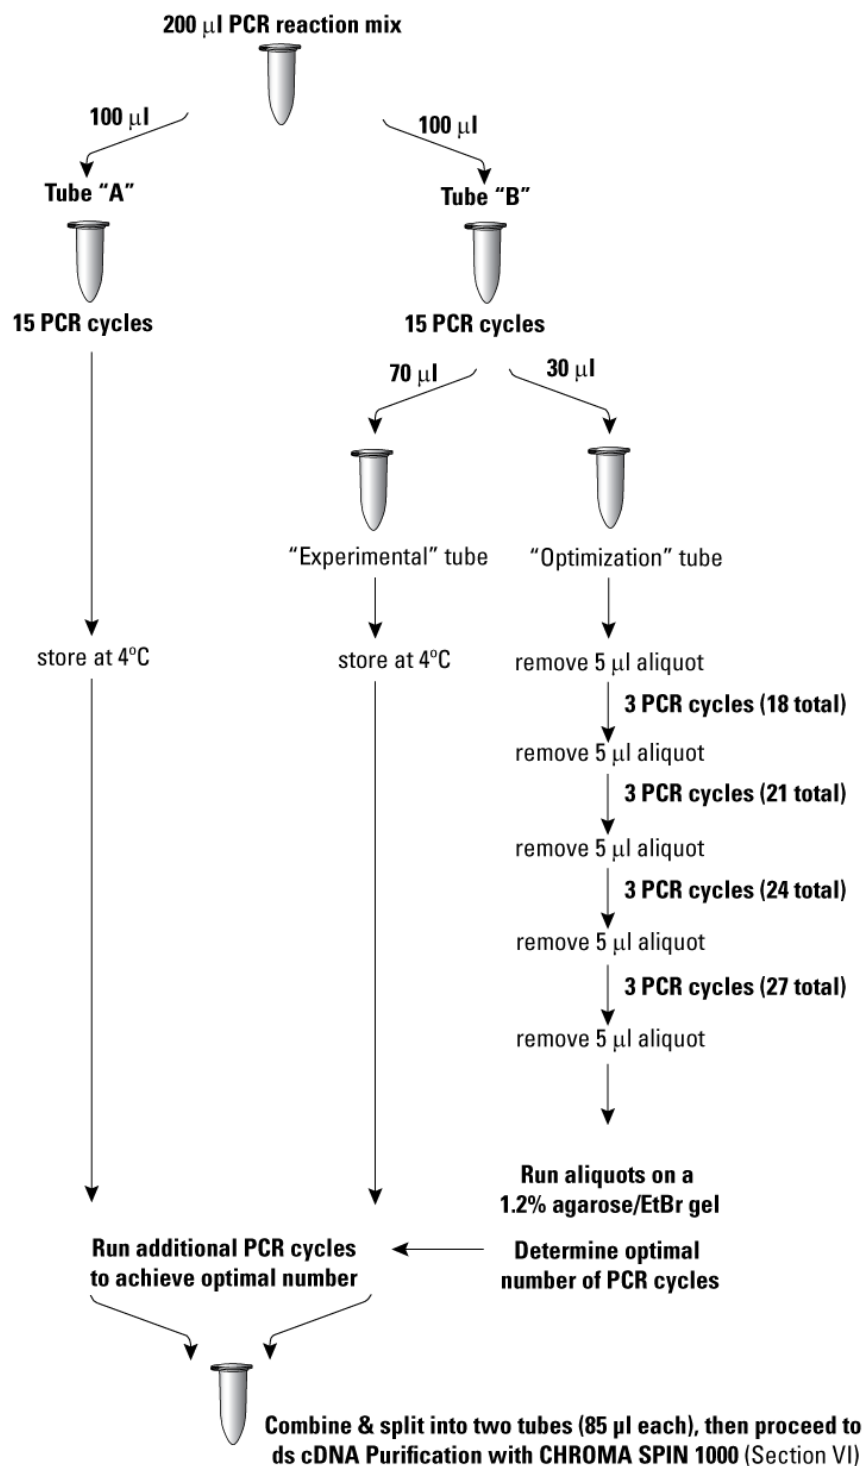

Figure 4. Optimizing PCR parameters for SMARTer cDNA synthesis.
6. Subject each reaction tube to 15 cycles, then pause the program. Transfer 30 µl from each tube to a second reaction tube labeled “Optimization”. Store the “Experimental” tubes at 4°C. Using the Tester PCR tube, determine the optimal number of PCR cycles (see Figure 4):